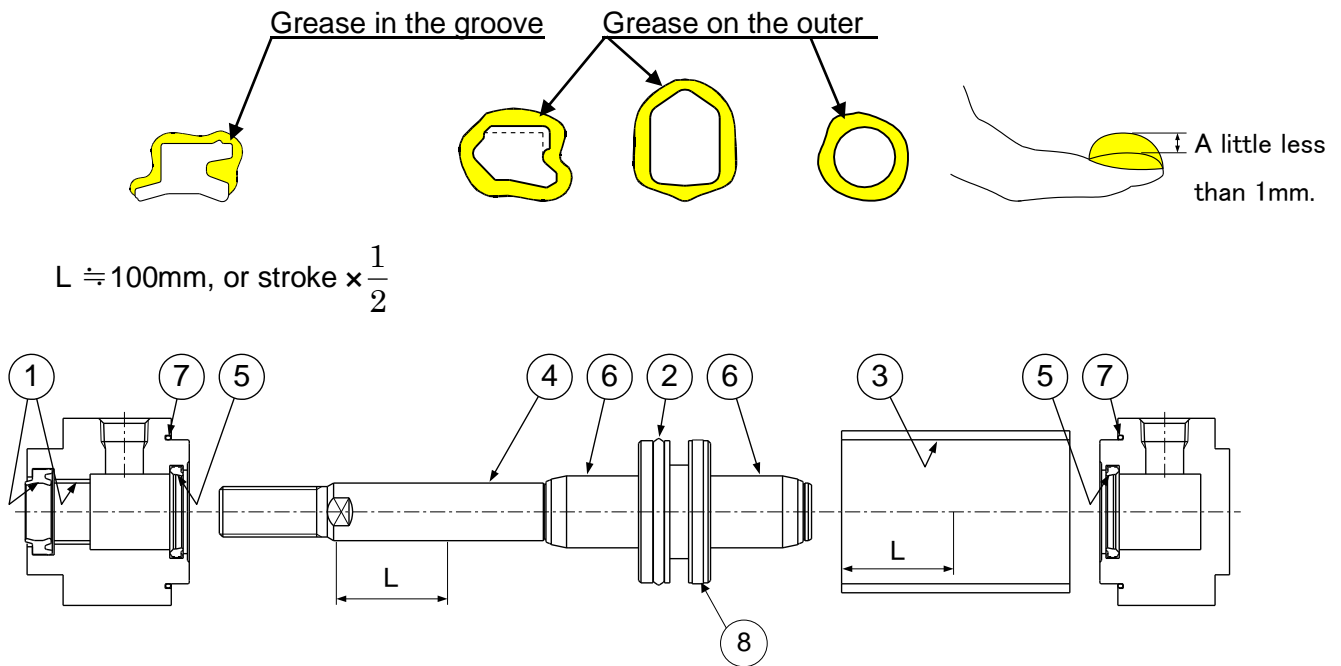

Fig 6. Position for application of grease
Grease is applied to the locations shown in Fig. 6. The amount of grease per cylinder of 100 stroke is shown in attached table 7. Roughly, one scoop with a forefinger is approximately 3g.
1) Rod seal, Cushion seal (Fig 6, ① ⑤)
2) Piston seal, Wear ring (Fig 6, ② ⑧)
3) Tube gasket (Fig 6, ⑦)